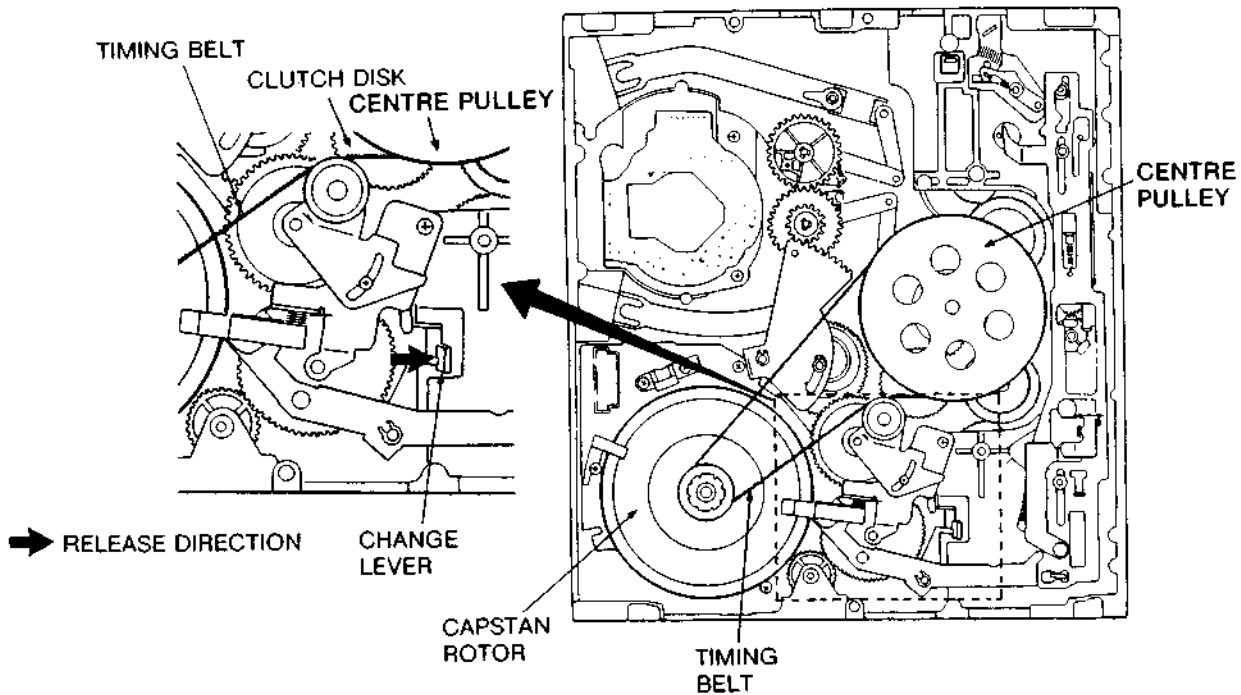

Fig. 1-3
- Release change lever pos. no 122(2) by pushing it to arrow mark direction as shown in Fig. 1-3.